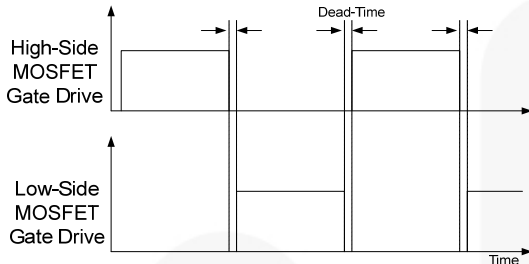

Figure 15. MOSFETs Gate Drive Signal
1. Basic Operation. FSFR-XS series is designed to drive high-side and low-side MOSFETs complementarily with 50% duty cycle. A fixed dead time of 350 ns is introduced between consecutive transitions, as shown in Figure 15.